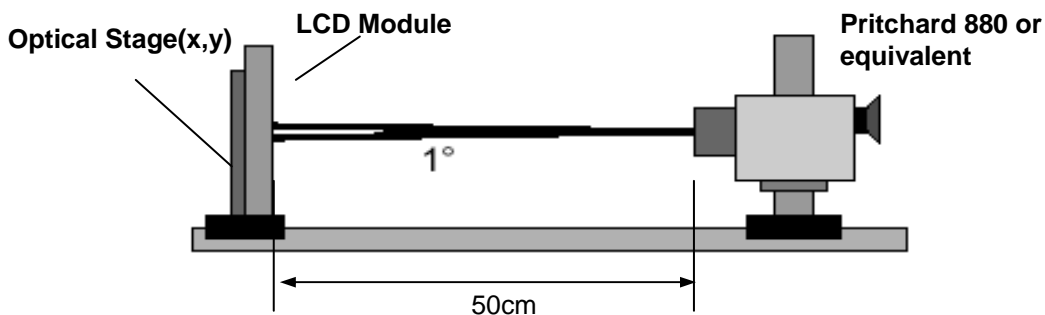

FIG. 1 Optical Characteristic Measurement Equipment and Method
FIG. 1 presents additional information concerning the measurement equipment and method.
2. Surface luminance are determined after the unit has been 'ON' and 1 Hour after lighting the backlight in a dark environment at $25 \pm 2^\circ\text{C}$. Surface luminance is the luminance value at center 1-point across the LCD surface 50cm from the surface with all pixels displaying white. For more information see the FIG. 1.